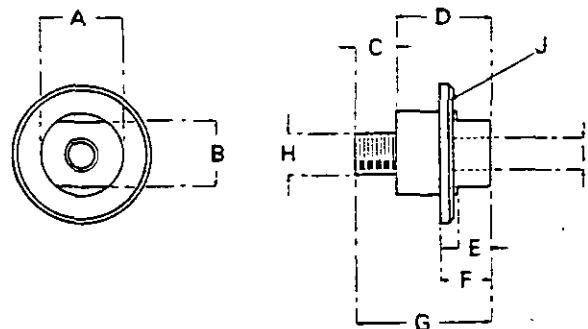

Figure 19. TOOL FOR REPLACING DIFFERENTIAL LOCK SLEEVE
3. Push differential lock spring into differential gear and push sleeve against the spring. Insert the special tool (Fig. 19) into axle case and against the sleeve. Push sleeve against spring until the splines on sleeve start to enter differential gear, then move the tool to engage pedal fork in the sleeve groove. The pedal should then be fastened in the "engaged" position to hold the sleeve in place so that the reduction unit can be refitted.